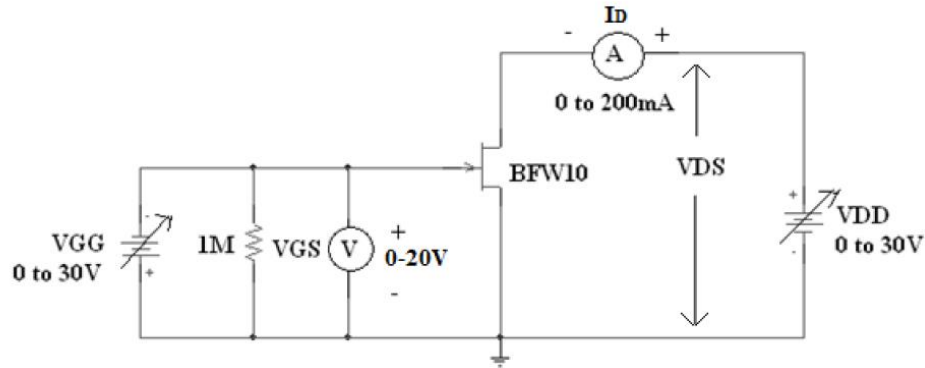

Figure 3 Characteristics of FET
1. Connect the circuit as shown in Figure3. All the knobs of the power supply must be at the minimum position before the supply is switched on.